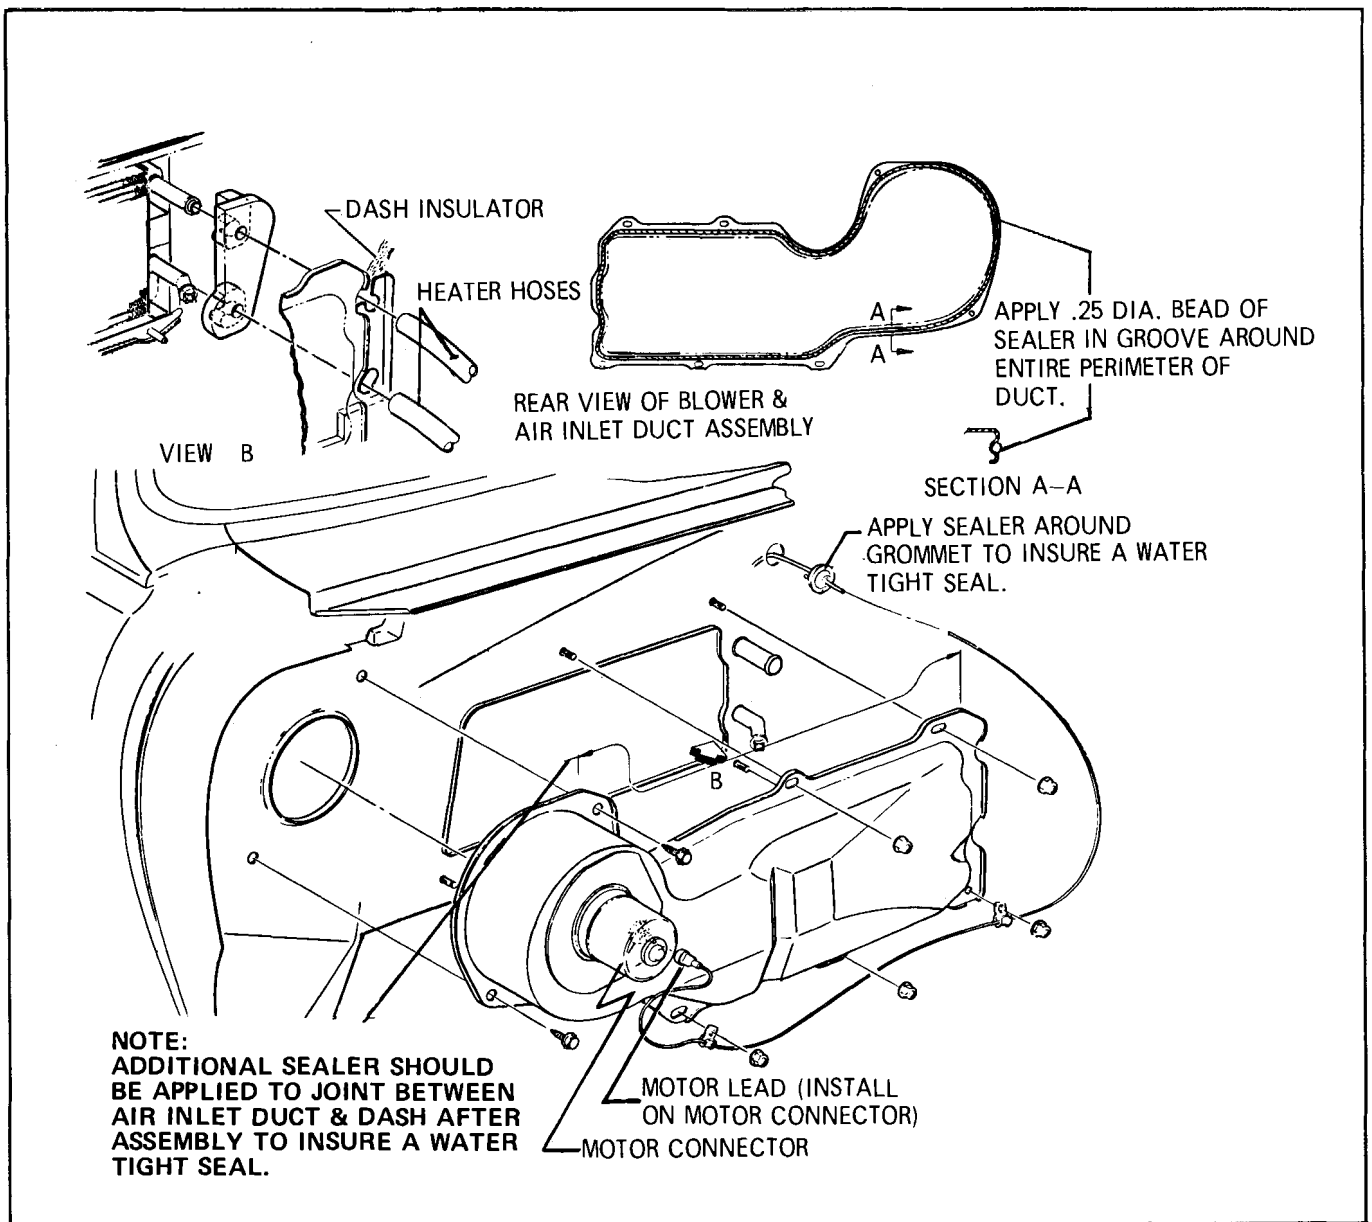

Fig. 1-26 Blower Motor and Air Inlet Duct Installation - Except B Series
2. Remove blower motor or duct retaining screws as required (see Fig. 1-26).
2. Remove (2) air inlet case attaching screws through opening between fender and skirt.
3. Remove (5) air inlet case attaching nuts and remove case.
4. To replace, reverse removal procedure. Reseal air inlet case when replacing. See Fig. 1-26 for installation.